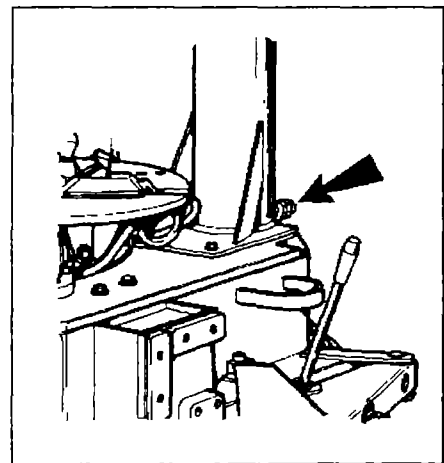

Fig.31
K. Drain water daily from the tank (Fig.31).